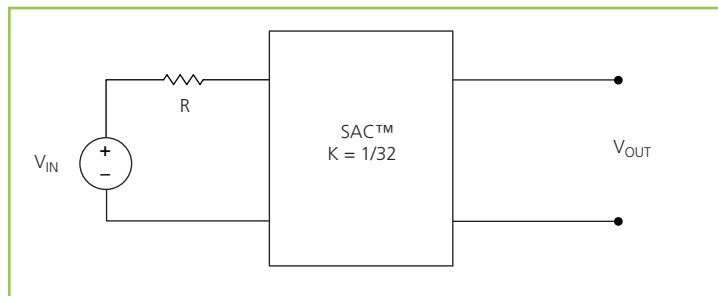

Figure 15 — K = 1/32 Sine Amplitude Converter™ with series input resistor
The use of DC voltage transformation provides additional interesting attributes. Assuming that ROUT = 0 Ω and IQ = 0 A, Eq. (3) now becomes Eq. (1) and is essentially load independent, resistor R is now placed in series with VIN as shown in Figure 15.
Assuming that  $R = 1 \Omega$ , the effective R as seen from the secondary side is 0.98 m $\Omega$ , with  $K = 1/32$  as shown in Figure 15.